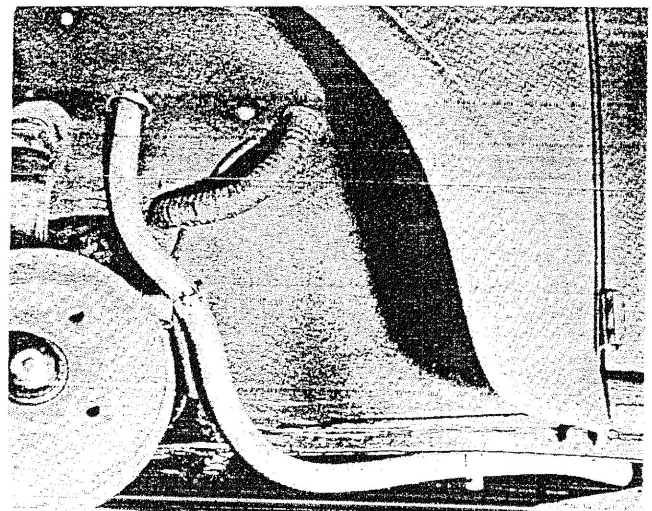

Figure 4 - Hose Installations in Fender Well
4. Refer to Figure 4 and cut a 2 inch hole in the area as shown inside fender wheelwell panel beneath the fuel tank. **CAUTION: WIRING BEHIND PANEL MUST BE HELD ASIDE WHEN CUTTING HOLE.**
6. Install the rubber combustion blower intake adapter to the side of combustion blower housing. Slip the 1-1/2 inch I.D. duct over the adapter inlet. Install one of the 2 inch grommets on duct and route over to and through the 2 inch hole in fender panel and place the grommet in hole. Install the other 2 inch grommet over the duct and insert duct and grommet through and into the 2 inch hole drilled in panel beneath the fuel tank. See Figure 4.
3. Using a 11/64 drill bit, drill a hole in fender wheelwell and secure one of the exhaust tube clamps with the No. 14 x 5/8 screw. See Figure 4.
4. Remove the bolt and plate from the "U" shaped channel under vehicle and to rear of fender. Discard the plate removed and using the plate provided in heater kit and the bolt removed, install the other exhaust tube bracket. Route the flexible exhaust along bottom of vehicle and secure with the clamp. See Figure 4.